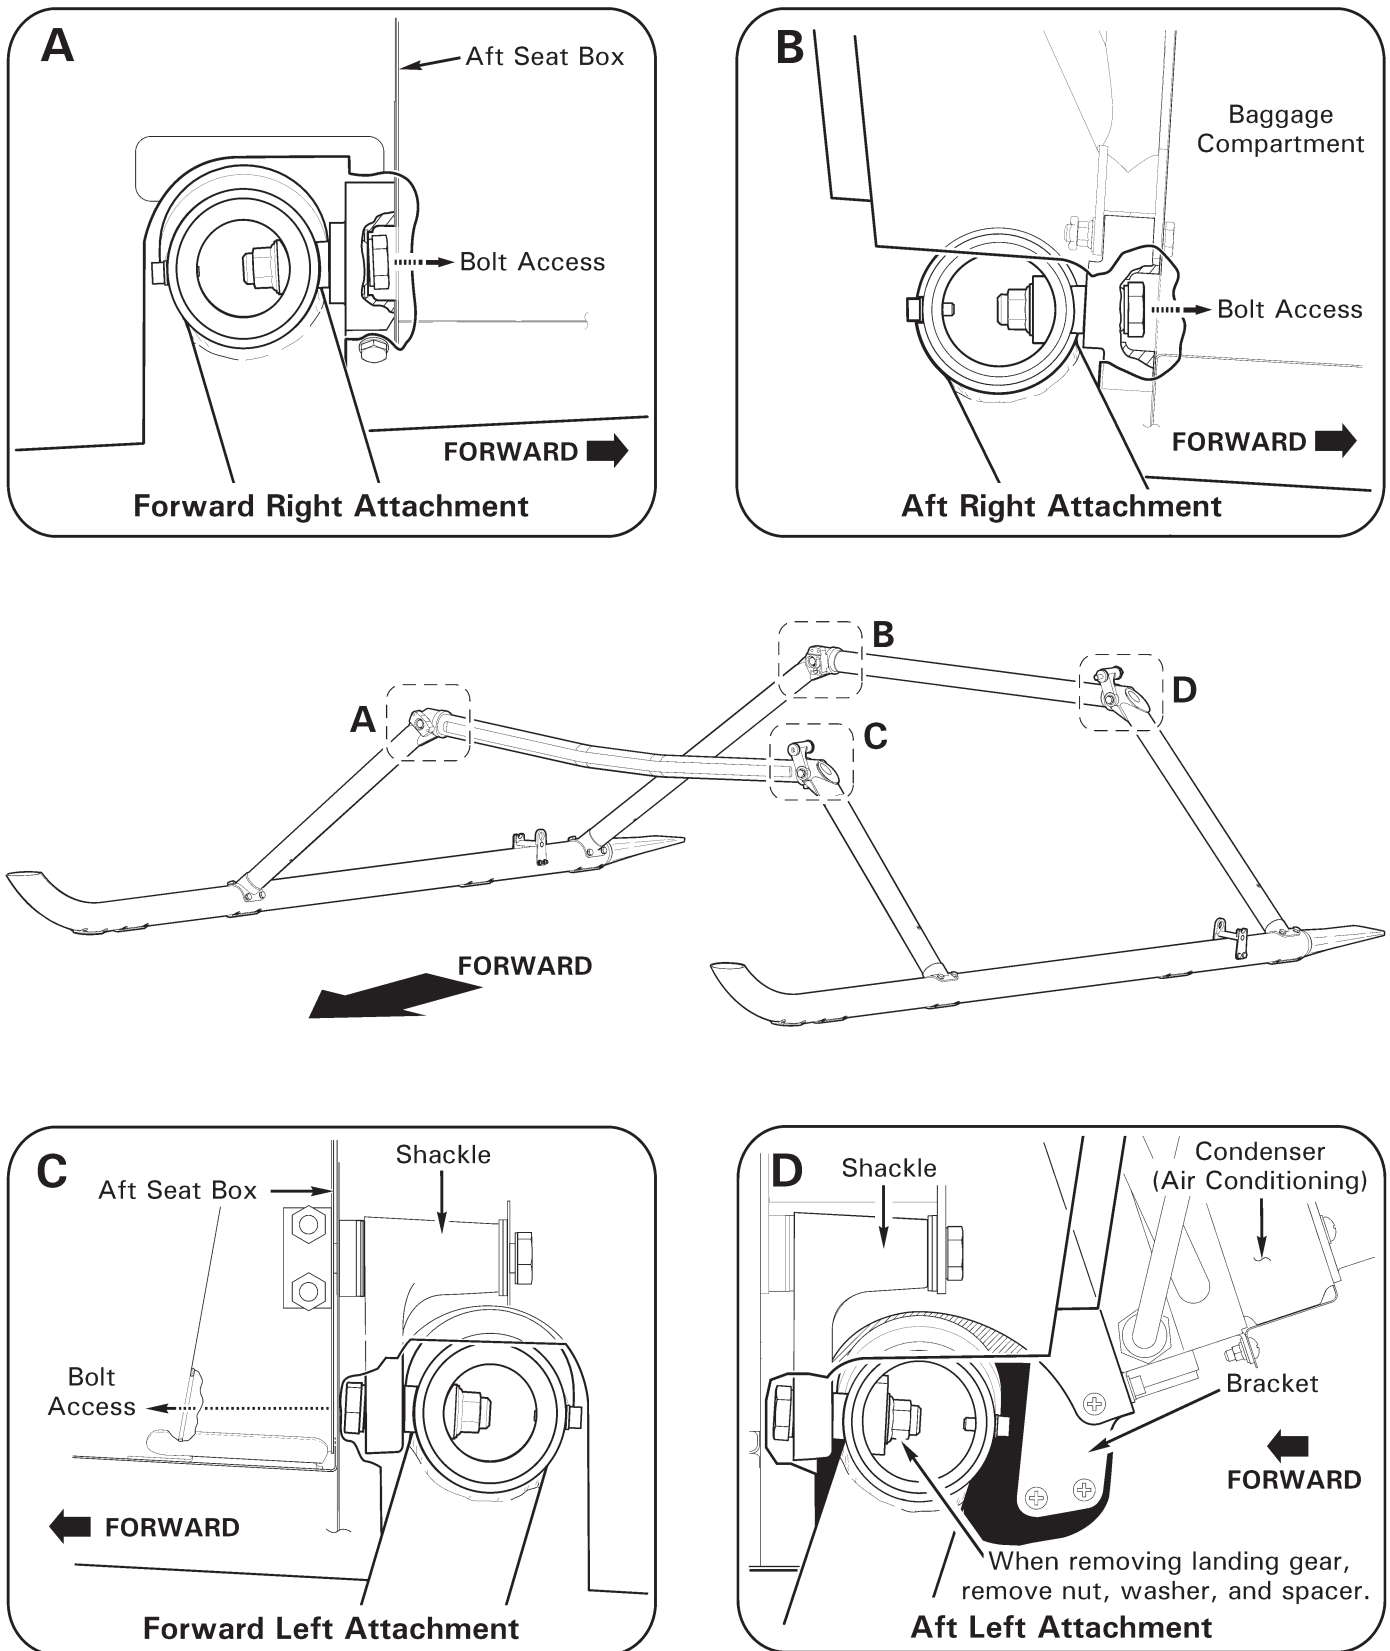

FIGURE 32-1 LANDING GEAR ATTACHMENT
3. Refer to Figure 32-1. If installed, remove hardware securing A936-3 (ground) wire assembly to aft, right landing gear attachment.
2. Refer to Figure 32-1. Align mounting bolt (in place) with aft, left landing gear attachment. Install hardware, special torque fastener per § 20-33, & torque stripe per Figure 5-1. If air conditioning is installed, install hardware securing G787-3 and G787-4 brackets to condenser support. Verify security.
Refer to R66 Illustrated Parts Catalog (IPC) Figure 32-1.